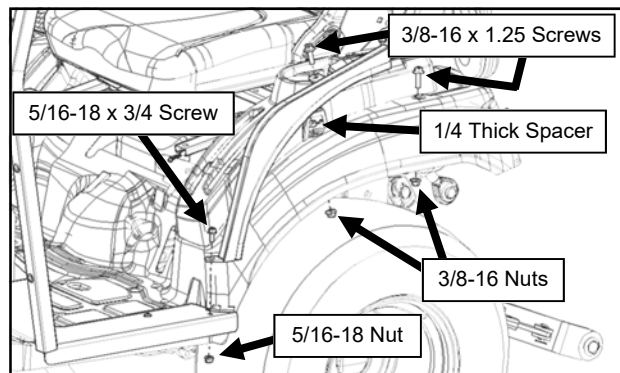

Fig. 4.1 (Contour Assembly)
- 4.1** Assemble the left contour assembly to the left A-Pillar floor board and front hole for the grab handle. See figure 4.1. Use a provided 1/4" thick spacer under the tab for the grab handle hole. Leave just loose enough for adjustment. Use a second bolt and nut to fill the rear grab handle hole and tighten.